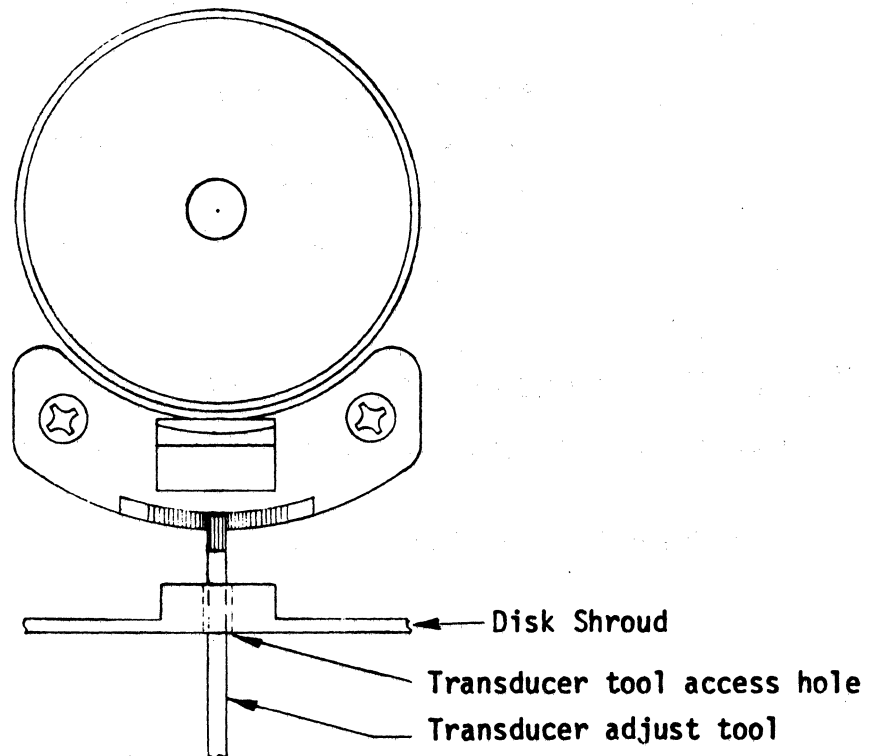

Figure 4-16. Sector Adjust
- (1) Loosen transducer retaining screws, Figure 4-16.